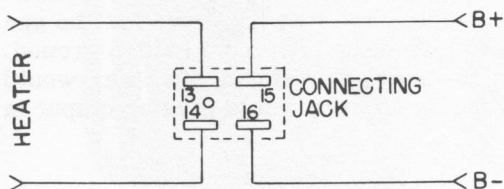

Figure 3.
**2.1 POWER SUPPLY.** Connect an external power source to the connecting jack as shown in Figure 3. Recommended power sources are the Type 1203 Unit Power Supply, Type 1201 Unit Regulated Power Supply, and Type 1204 Unit Variable Power Supply. The power supply should be able to deliver 2.7 amp at 6.3 volts (60 cps) and 50 ma at 300 volts dc. The heater supply should be left floating, and not tied to B- (ground). When using the Type 1201 Unit Variable Power Supply, set the output to 300 volts.